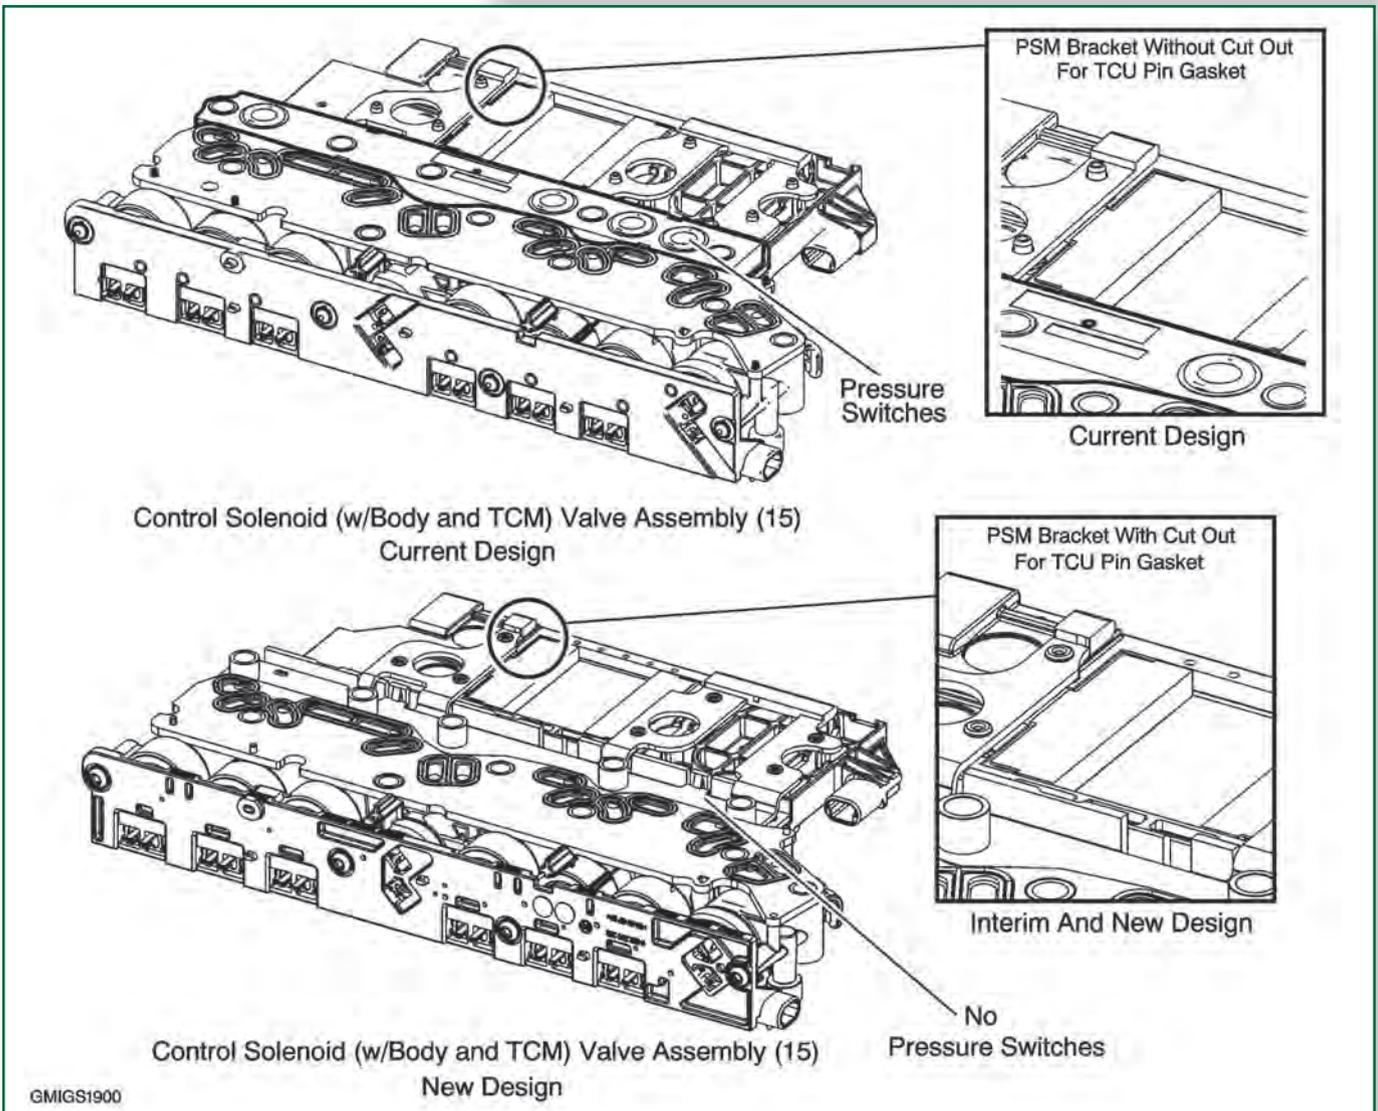

Figure 3
sure switches were eliminated, and the TEHCM now uses *clutch pulse learn* technology to control shift adapt operation. In addition, the PWM solenoids were updated from a variable *bleed* (VBS) to variable *feed* (VFS) design (Figure 3).
**In addition, the PWM solenoids were updated from a variable bleed (VBS) to variable feed (VFS) design (Figure 3).**